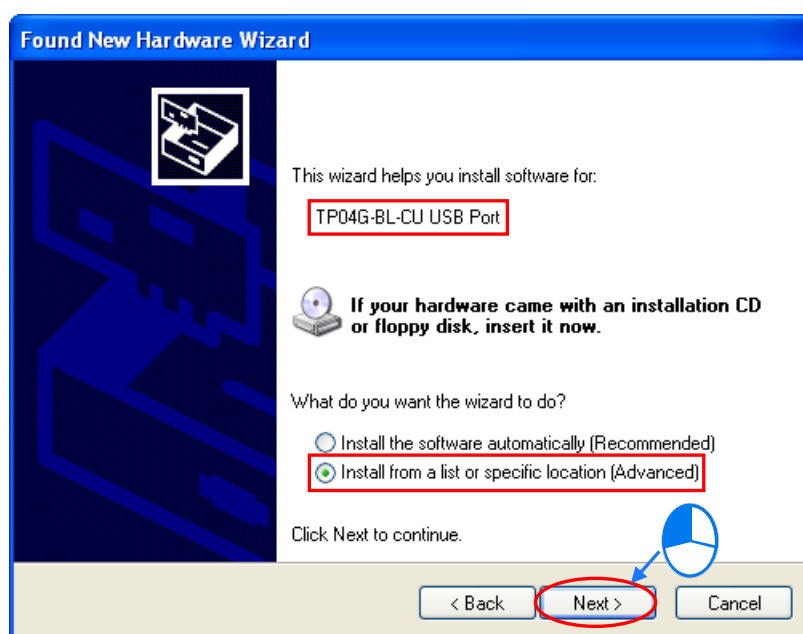

Figure B-2 Process of installing a USB driver
- (2) The name of the USB device detected is displayed in the window. Please select the **Install from a list or specific location (Advanced)** option button, as shown in Figure B-2.